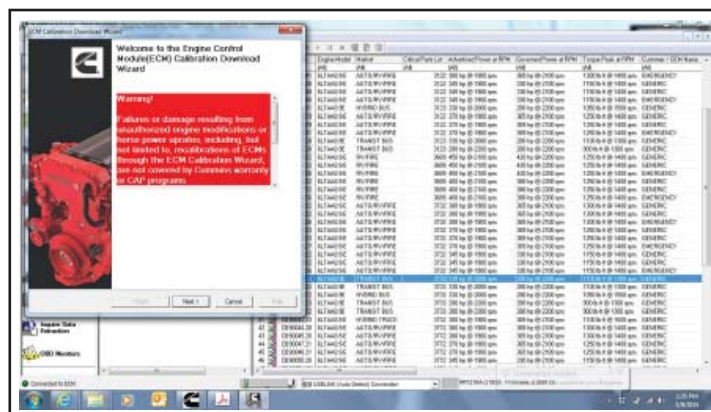

Figure 18 - Clicking on Next
1.18. Click next. See Figure 18.